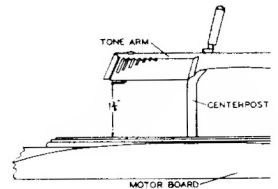

Figure 4
2. Turn the adjustment screw "A" until the sapphire is  $1\frac{3}{8}$  inches above the turntable. This adjustment will permit the pickup to land and play one record placed on the turntable. At the same time it prevents the tone arm from touching the record resting on the centerpost while the mechanism is going through cycle. (If this height cannot be reached by the adjustment screw, take up on the cotter pin.) (Figures 4 and 5.)